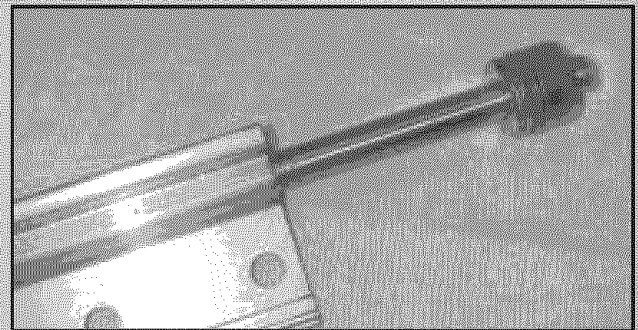

Fig. 1-3
- Slide end of screw out about 5 inches. **Fig. 1-3.**